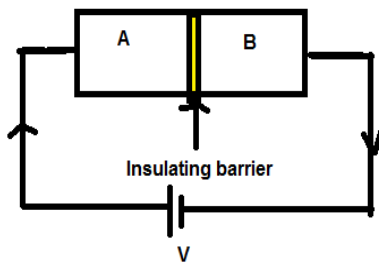

Figure 11
2) **AC Josephson Effect:** If we apply a dc voltage across the Josephson junction, it introduces an additional phase on Cooper pairs during tunneling (figure 11). As a result new